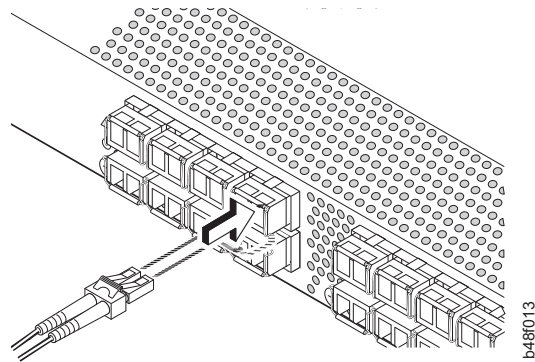

Figure 10. Installing a cable
3. Orient a cable connector so that the key (the ridge on one side of the connector) aligns with the slot in the transceiver (see Figure 10 on page 21). Then, insert the cable into the transceiver until the latching mechanism clicks.